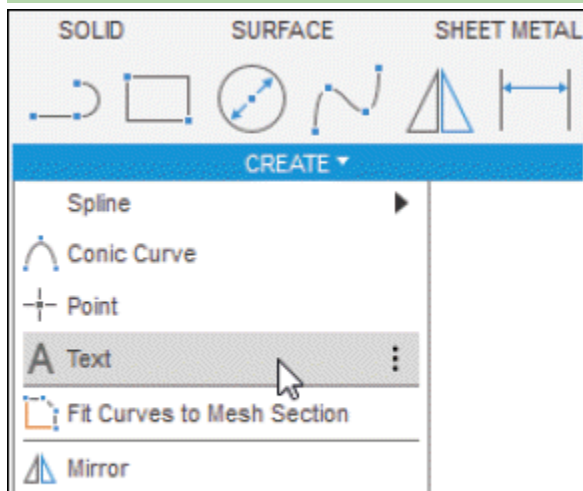
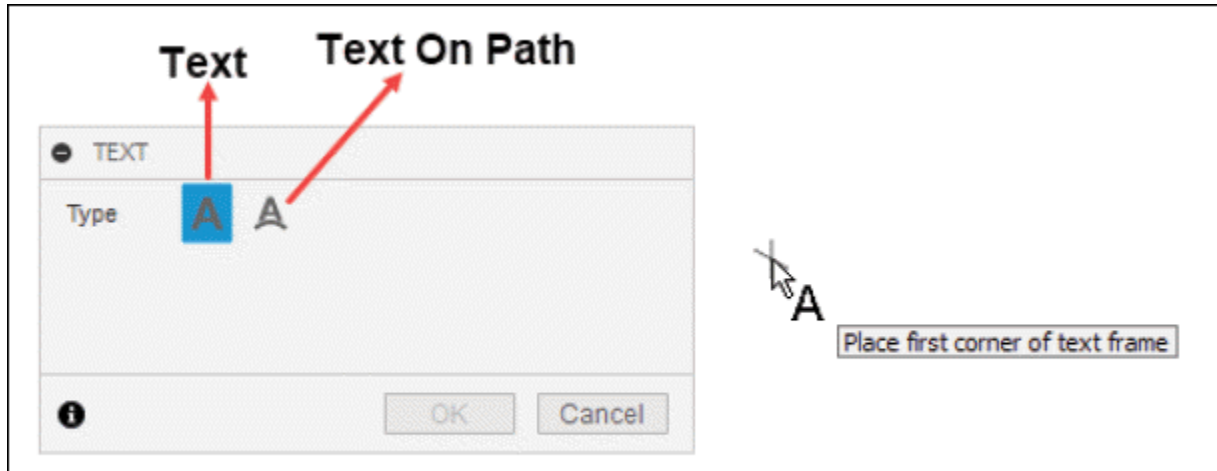
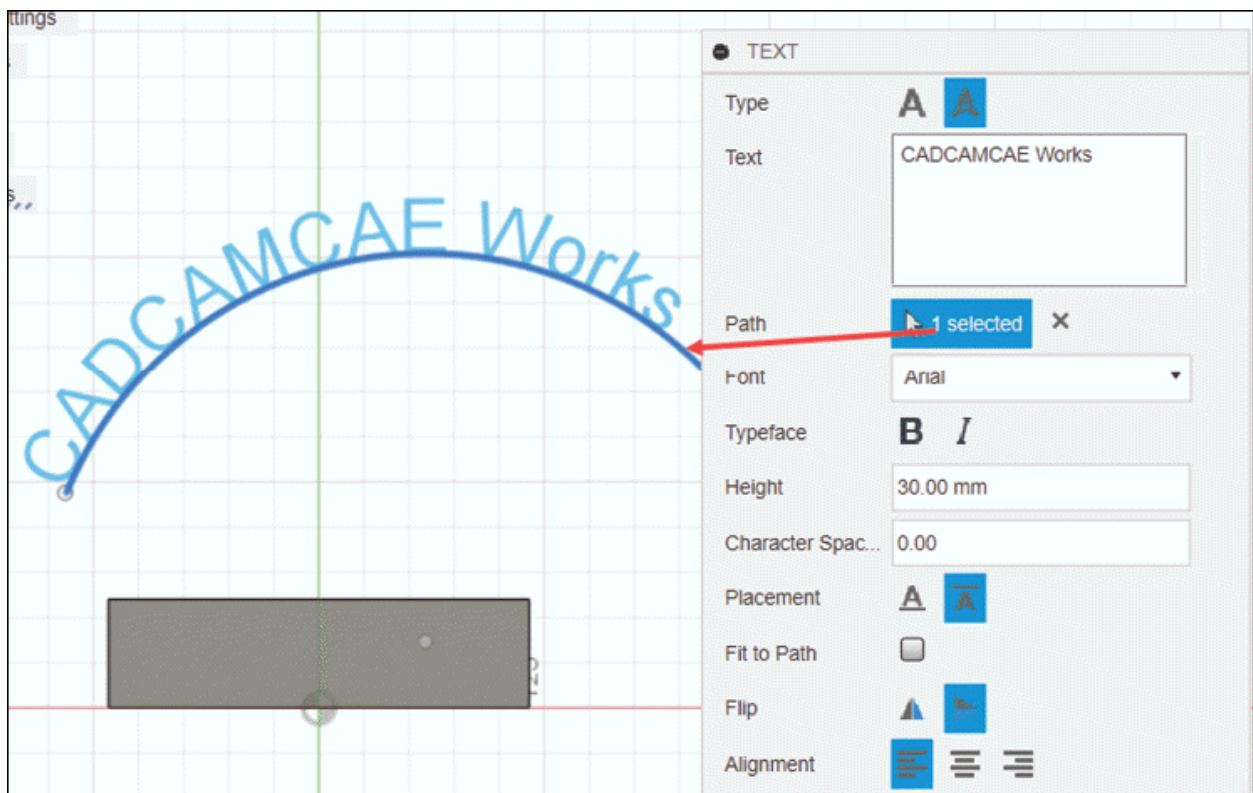
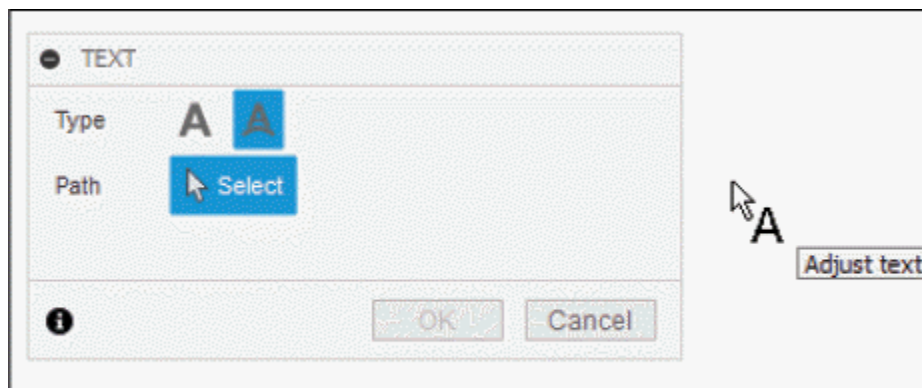

Figure-44. Text tool
Figure-45. TEXT dialog box with text symbol attached to cursor
Figure-46. Creating text on path
Figure-49. TEXT dialog box with Text On Path options
- Click on **Text** tool of **CREATE** drop-down from **Toolbar**; refer to Figure-44. The **TEXT** dialog box will be displayed along with the symbol of text attached to the cursor asking you to specify first corner of the text frame; refer to Figure-45.
Note that **Text** option is selected by default in the **Type** section of the dialog box. Select **Text** option to create the text inside a rectangular frame; refer to Figure-45 and select **Text On Path** option to create the text along selected path; refer to Figure-46.
- If you want to create the text on path then create the sketch for path and select **Text On Path** option from **Type** section of the dialog box; refer to Figure-45. The **TEXT** dialog box will be updated; refer to Figure-49.